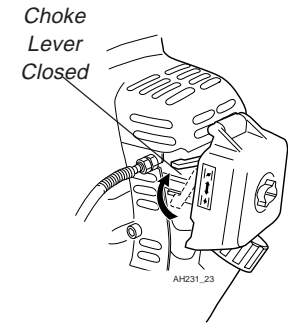

Figure 18
3. Choke the engine by moving the choke lever up to the “closed” position. See Figure 18.